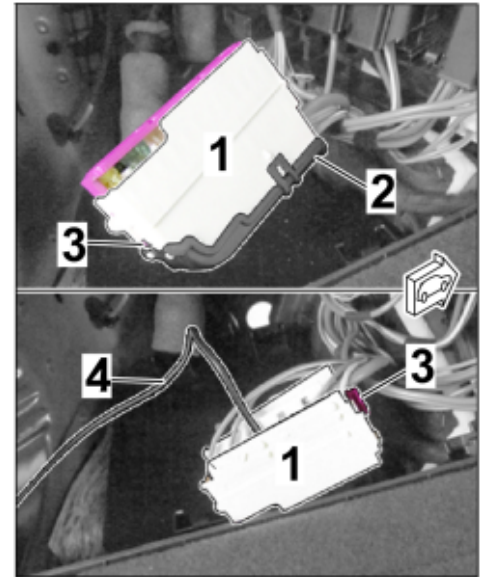

Figure 10
- 2.3.1 Remove fuse holder H (strip B – white) from the fuse box in the luggage compartment ( ⇒ *Workshop Manual '978409 Loosening and securing fuse box in the luggage compartment' ⇒ Figure 10 -top-*).
- 2.3.2 Release fuse holder H (strip B – white) and connect the lines (RD/GN and RD/YE) as follows ( ⇒ *Figure 10 -bottom-*):